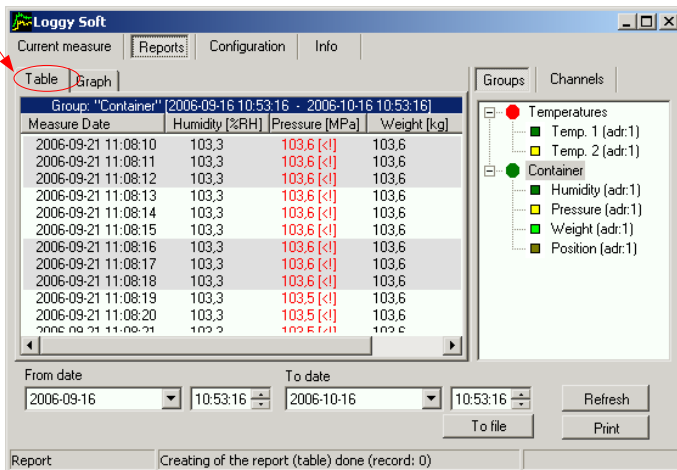

Fig. 3.3. **Reports** - menu
The **Table** tab (Fig. 3.3) is used for printing information concerning recorded measurements (e.g. temperature, humidity) in the form of a table for one of the groups or a particular measurement channel selected by the user (for more information on groups see 3.3.2 section, at page 73). This tab also enables the export of data to text format files. The exported file is formatted in a way allowing the transfer of data to a calculation sheet.
- click appropriate tab **Groups** or **Channels** (Fig. 3.3),